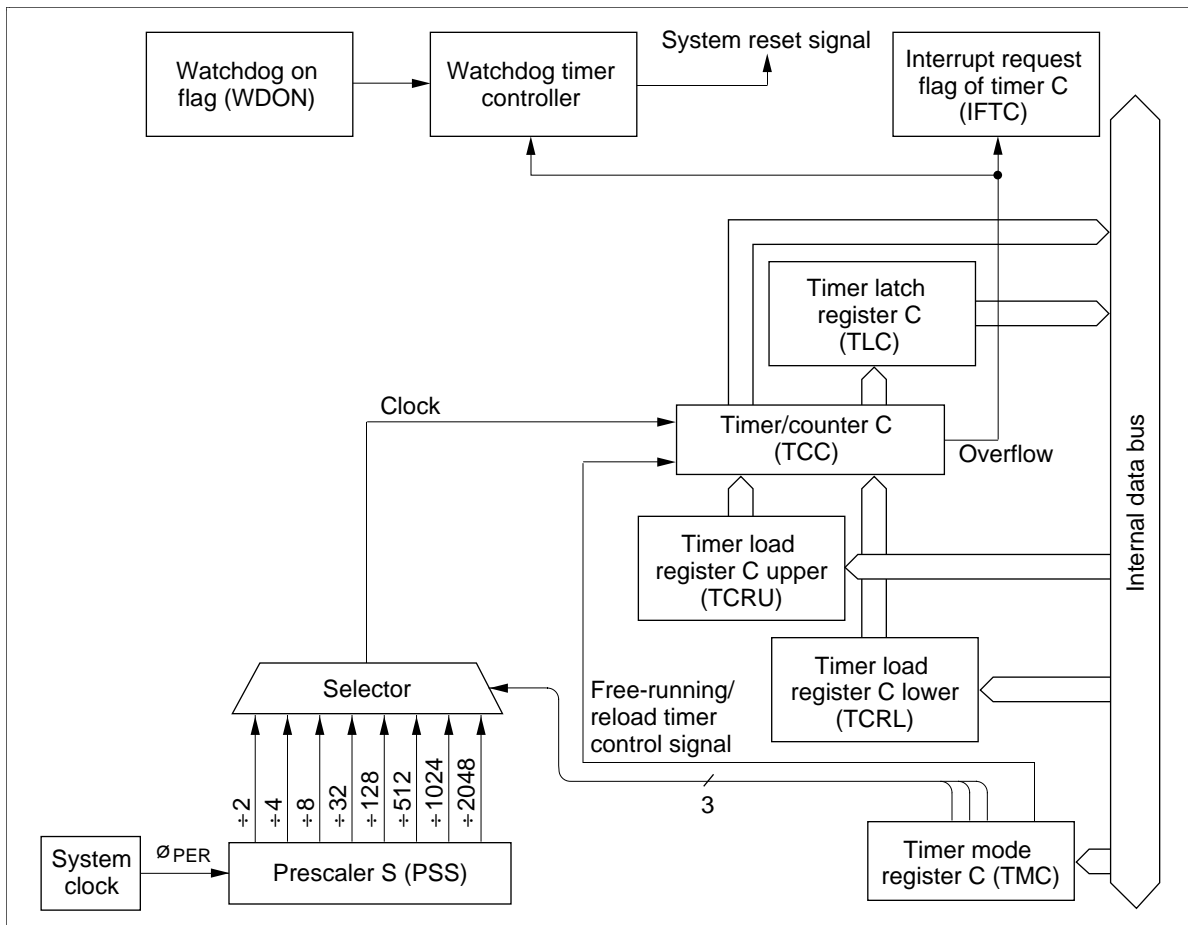

Figure 28 Timer C Block Diagram
**Timer C (TCCL and TCRL: \$00A, TCCU and TCRU: \$00B):** Eight-bit write-only timer load register (TCRL and TCRU) and read-only timer counter (TCCL and TCCU) located at the same addresses. The eight-bit configuration consists of lower and upper digits located at sequential addresses. The operation of timer C is basically the same as that of timer B. A block diagram of timer C is shown in figure 28.